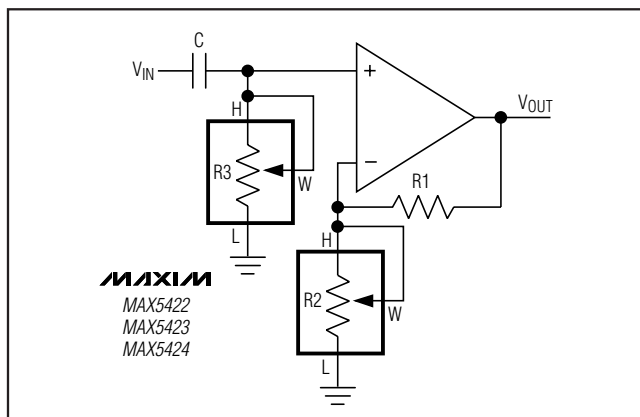

Figure 5. Programmable Filter
Figure 5 shows the configuration for a 1st-order programmable filter. The gain of the filter is adjusted by R2, and the cutoff frequency is adjusted by R3. Use the following equations to calculate the DC gain (G) and the 3dB cutoff frequency (f_C):